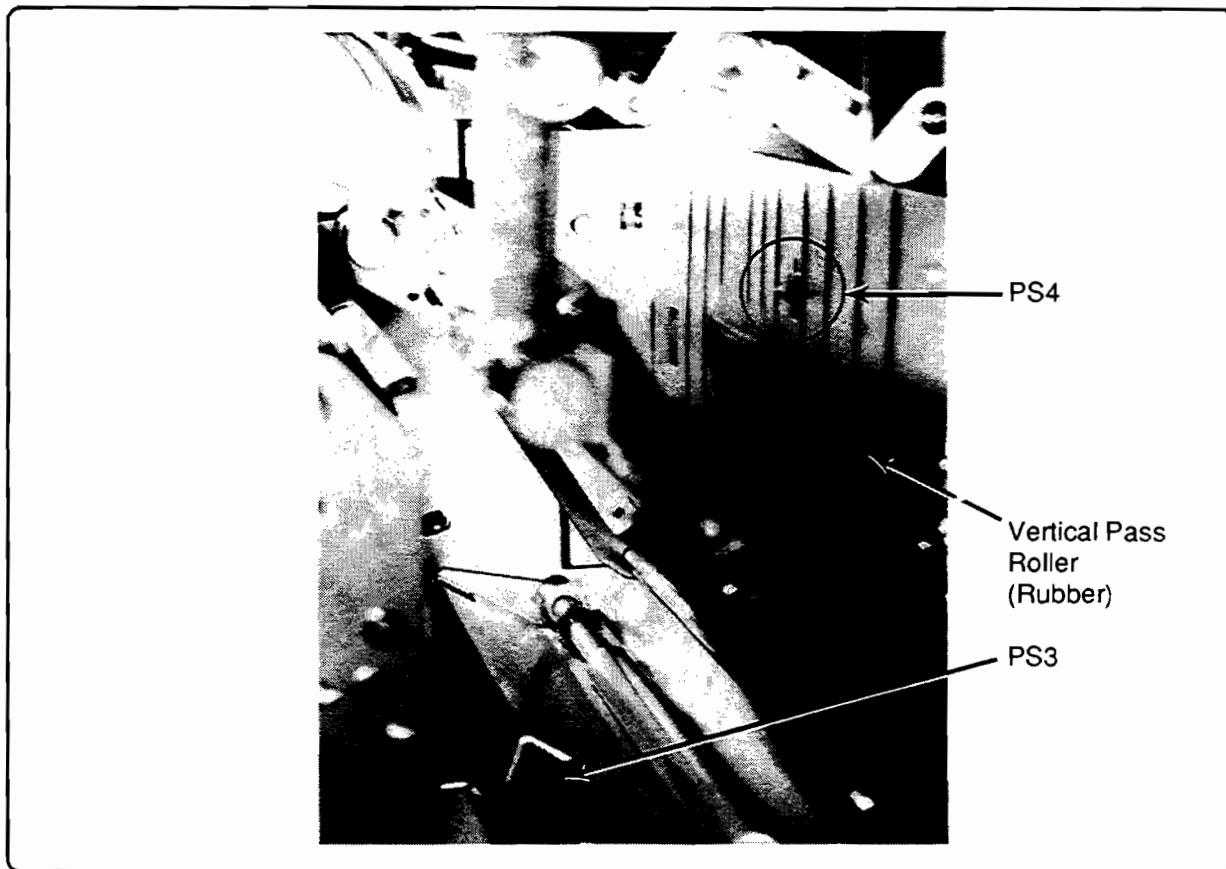

Figure 4-19. Vertical Pass Area
11. Blow out the pick-up sensor PS3 with compressed air (Figure 4-19).
12. Release the green lever 5A to gain access to both vertical pass rollers. Clean the rubber roller with Rubber Roller Restorer and the plastic roller with alcohol (Figure 4-19).
14. Blow out the Vertical Pass Paper Sensor (Duplex-PS4) with compressed air (Figure 4-19).